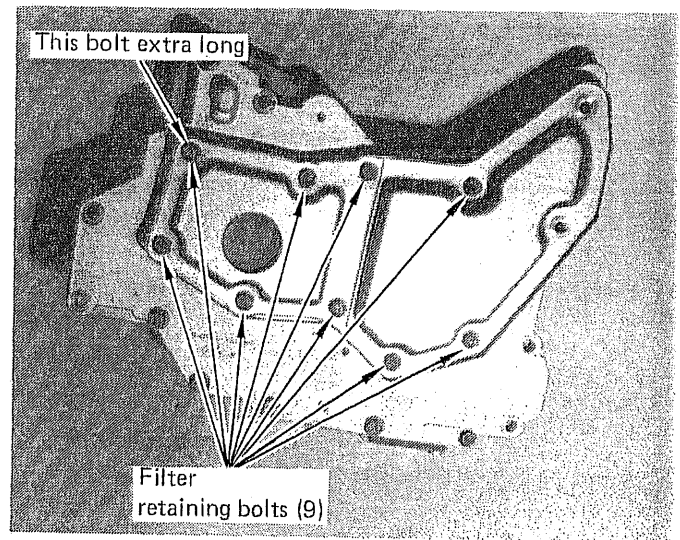
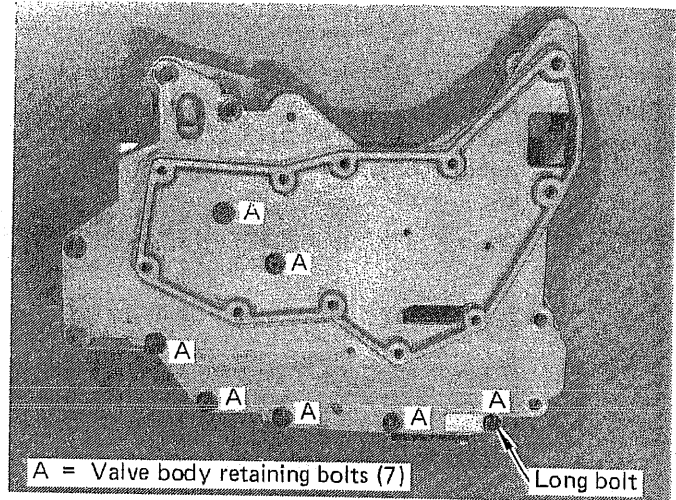
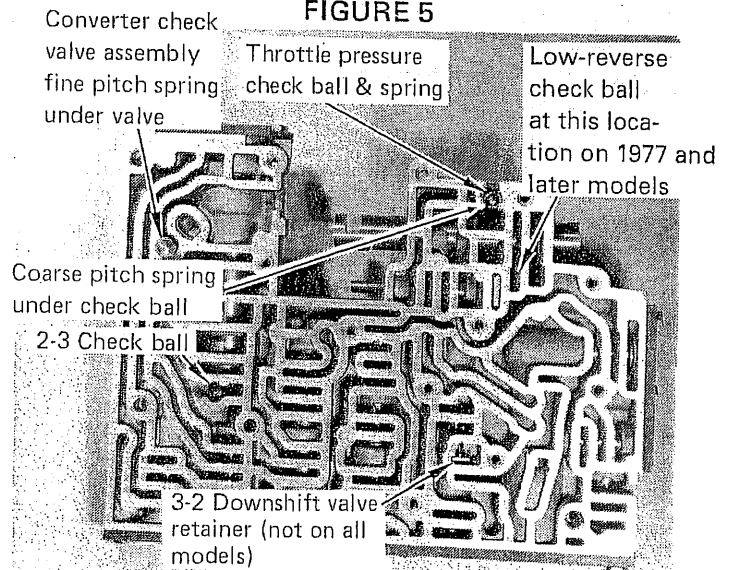
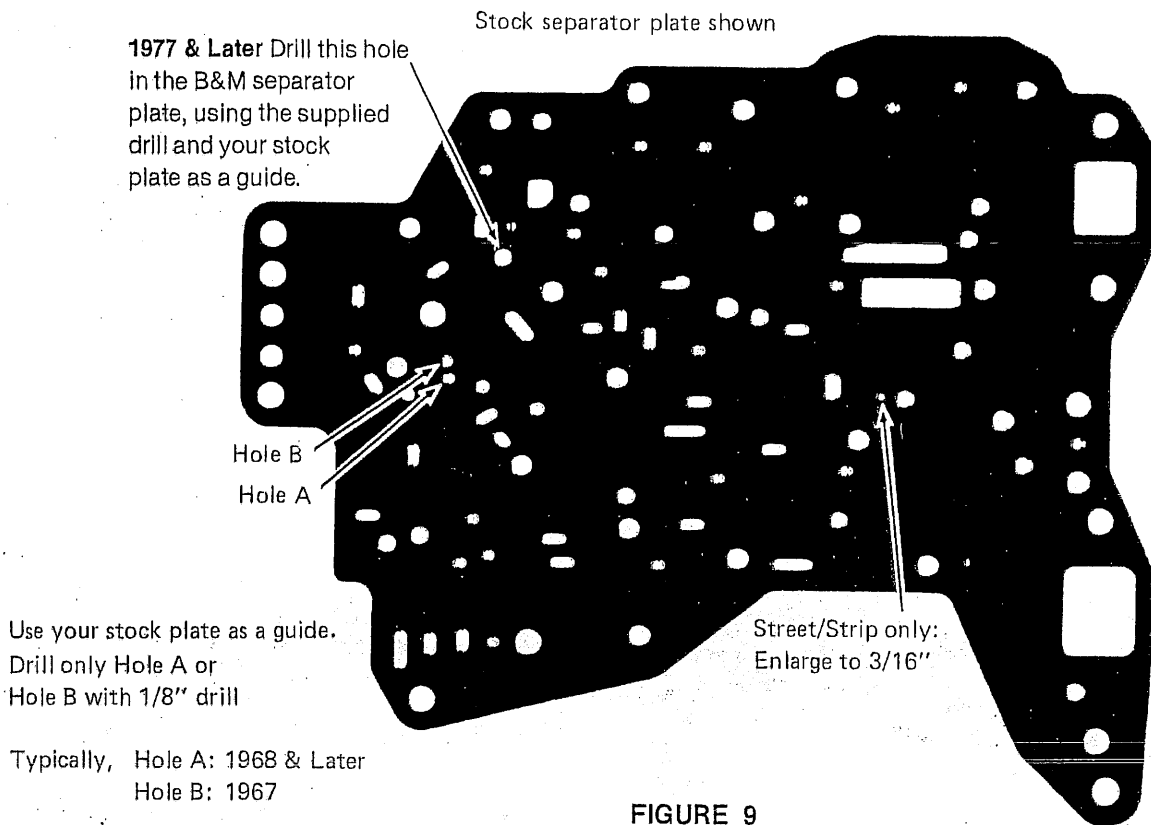

FIGURE 4
FIGURE 5
FIGURE 6
FIGURE 9
STEP 6. Turn the valve body over and remove the filter retaining bolts. (See Fig. 4) These are long bolts with one bolt being extra long. Remove filter and gasket.
STEP 7. Remove the remaining valve body bolts as shown in Figure 5. Note these are short bolts with one long bolt. The valve body consists of three parts. The thick aluminum housing with all the valves is called the casting, a thin alumi-
STEP 8. Lift the transfer plate assembly up, turn it over and set it aside. Remove the converter check valve assembly. This is a small steel valve or ball with a fine pitch spring. (See Fig. 6) Set them aside so they won't be confused. (The check valve may be stuck to the separator plate). Remove the throttle pressure check ball assembly. (See Fig. 6) This ball uses a coarse pitch spring. Set it aside so it won't be confused. Remove the 2-3 check ball from its pocket. (See Fig. 6) Do not lose the 3-2 downshift valve retainer. Some 1977 and later models have a low reverse check ball (See Fig. 6) **Do not** discard low-reverse check ball, if equipped. Set aside for later reinstallation.
STEP 11. Lay casting on bench with passages facing up. Install converter check valve assembly into place. (See Fig. 6)
Install throttle pressure check ball assembly into place. Check installation of 3-2 downshift valve retainer. Install 2-3 check ball into position. If your transmission had a low reverse check ball (See Fig. 6.) reinstall it at this time.
STEP 13. Compare your stock separator plate with the B&M plate for the position of hole location A or B. (See Fig. 9) Lay your stock plate on top of the B&M plate for a drill guide. Carefully drill an identical hole in the B&M plate in the same location A or B using the 1/8" drill supplied. All stock plates will have a hole at location A or B. Typically hole A: 1968 and later, hole B: 1967. Drill only one hole. Deburr the hole with a file, stone or sandpaper.
1977 & Later: On valve bodies equipped with a low reverse check ball, as shown in Figure 6, you must drill a hole in the B&M separator plate in the location shown in Figure 9. Use the 3/16" drill supplied in the kit. Align your stock plate with the B&M plate as a drill guide. Drill and then thoroughly deburr the hole. Proceed with Step 13.
drill out the hole in the B&M plate as shown in Figure 9. Deburr the hole with a file or sandpaper after drilling.
STEP 16. Install separator plate — transfer plate assembly on to casting. Make sure check valve assemblies are in position. (See Fig. 6) Hold the valve body halves together and install six short bolts and one long bolt in place. (See Fig. 5) Tighten bolts finger tight.
STEP 17. Tighten bolts in this sequence: Valve body bolts (7) 30 to 45-in. lbs. Hold down plate bolts (3) 30 to 45-in. lbs. End plate bolts (12) 30 to 45-in. lbs. Be sure end plates do not contact separator plate.
STEP 18. Install filter and new gasket. Install eight long filter bolts and one extra long filter bolt. (See Fig. 4) Align two large bolt holes with casting and tighten bolts to 30 to 45-in. lbs.